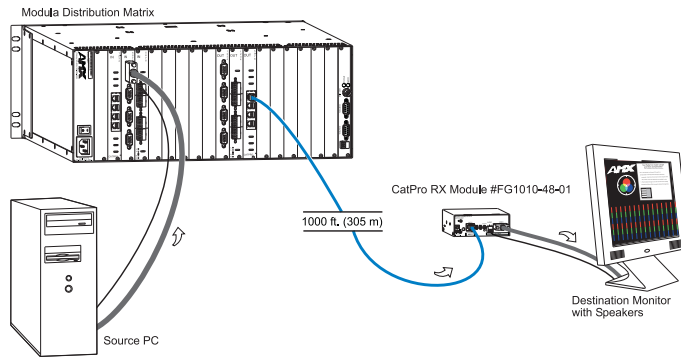

FIG. 46 Routing Path A
2. Cable the complete routing paths from the source devices to the destination devices (FIG. 46). All cable should be the actual cable that will be used.